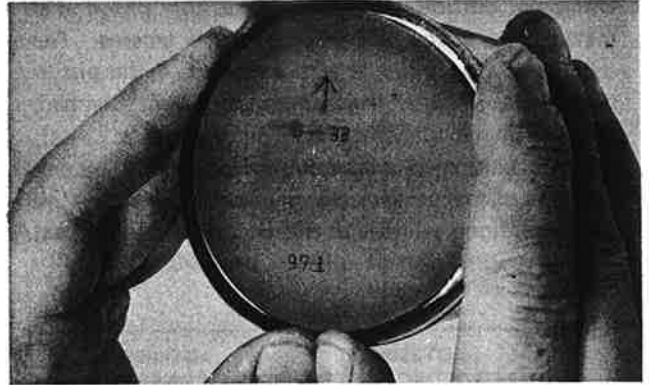

Fig. 3-3-13
- 1. Remove piston ring. (Fig. 3-3-13)**